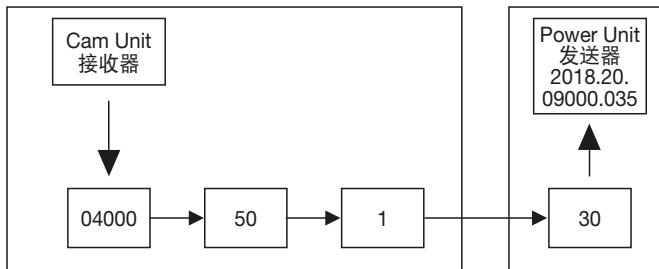

Fig. 2: Selection for example 2 图 2：选择示例 2
**Example 2 (Fig. 2):** If a press stroke of just 30 mm can be used to execute the operation, then a larger Power Unit 2018.20.09000.035 should be used for the Cam Unit 2018.11.04000.049. The Power Unit stroke used is 30 mm, the transmission ratio is 2.5. If the press speed is 0.3 m/s, then the Cam Unit stroke speed obtained is  $2.5 \times 0.3 \text{ m/s} = 0.75 \text{ m/s}$ .
**示例 2 (图 2) :** 如果执行工作操作时仅需要 30 mm 的下压行程，则可为接收器 2018.11.04000.049 选择尺寸更大的发送器单元 2018.20.09000.035。发送器所用行程为 30 mm，传动比 2.5。如果下压速度为 0.3 m/s，则可得出接收器行程速度为  $2.5 \times 0.3 \text{ m/s} = 0.75 \text{ m/s}$ 。